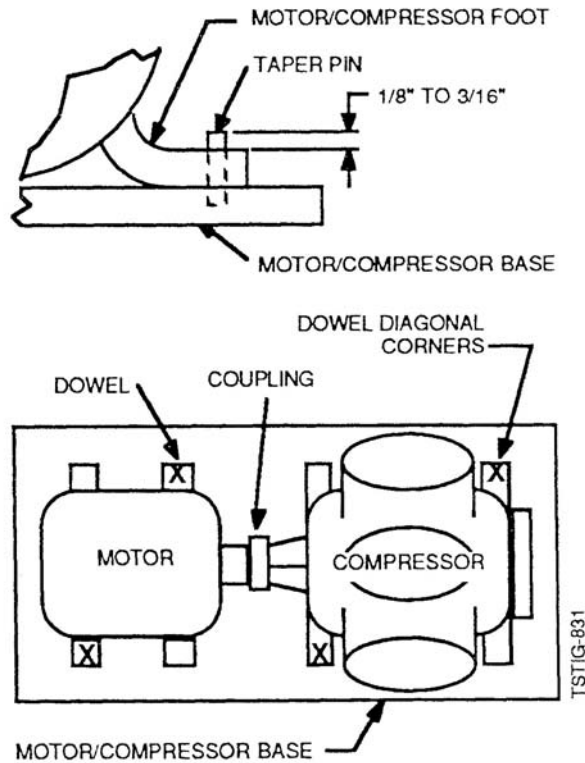

Figure 3-12 Doweling
2. With the compressor still at operating temperature, drill and ream two (2) holes diagonally opposite on both the compressor and motor. Do not ream the holes too deep. Part of the dowel pin should protrude above the compressor or motor foot (see step 4 below). See Figure 3-12.